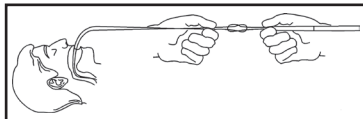

Figure 8
- By grasping the dilating tip between the thumb and forefinger, tighten the loop together to form the attachment (Figure 8).